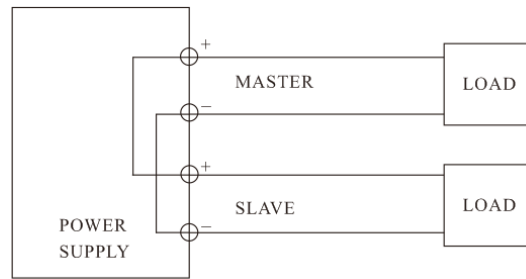

Fig.5-5 Parallel Tracking Operation
- F. Connect the negative polarity of the device being powered to the black (-) terminal of the MASTER power supply. The configuration is as shown in Fig.5-5.